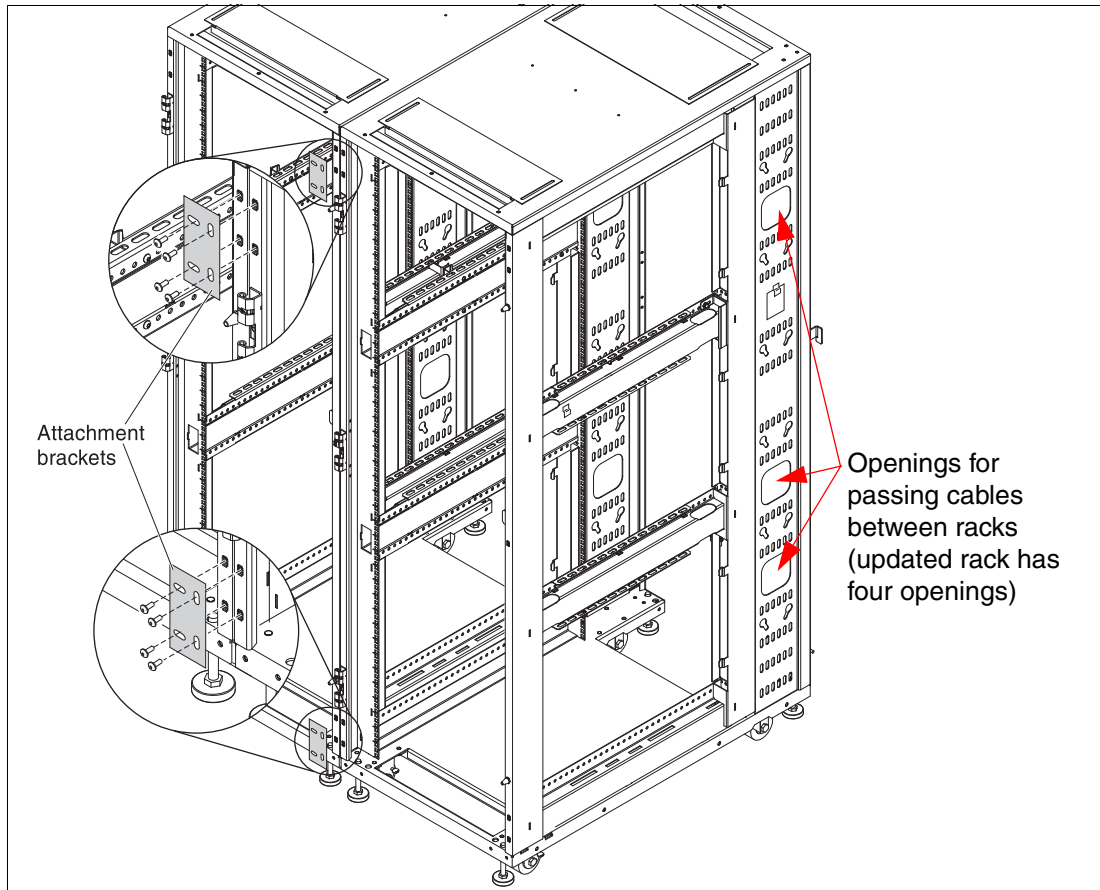

Figure 5-8 Joining two racks to make a row
The base model of the rack includes side panels. The expansion model of the rack includes the hardware that is used to join it to another rack, and no side panels. A row of racks (sometimes called a suite) can be created with one base model rack and one or more expansion racks; the side panels from the base rack are installed on each end of the row. Figure 5-8 shows joining two racks. Racks that are connected in this way match up with standard floor tile widths, which is not possible by moving the base model racks next to each other.
- ▶ Openings in the side walls behind the rear posts through which cables can be routed between racks in a row, as indicated by the arrows that are shown in Figure 5-8 on page 77. Also included are attachment points above and below these openings to hold cables out of the way and reduce cable clutter. New versions of this rack have four openings in each side wall.